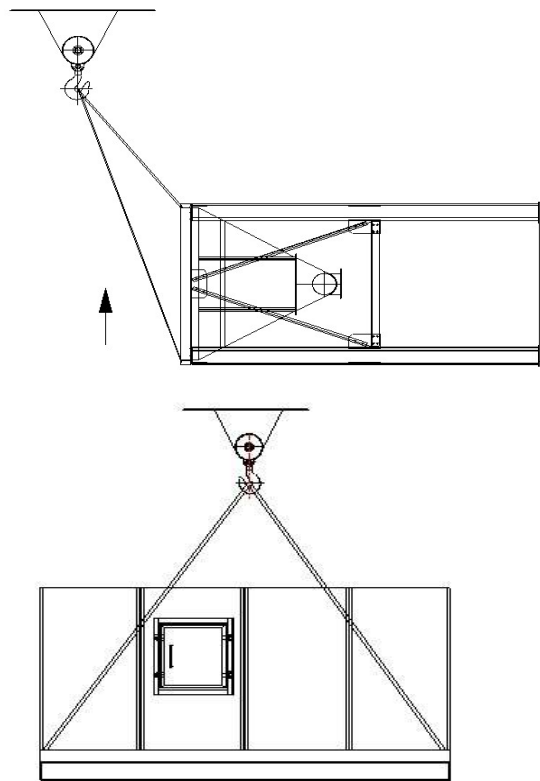

Figure 3. Lifting of Filter
4.1.2. The filter parts should only be lifted with the lifting parts (rings or the holes on the strength lamas located on the body). See Figure 3.